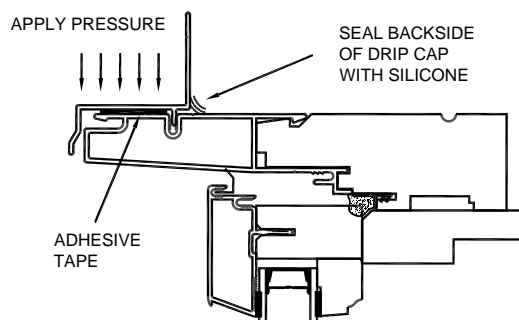

Fig 2
- Remove the liner from the adhesive tape, and carefully place the drip cap into position as shown in Fig 2. Make sure the drip cap is centered over the unit before the tape contacts the frame.
- Seal backside of drip cap with silicone as shown in Fig 2.